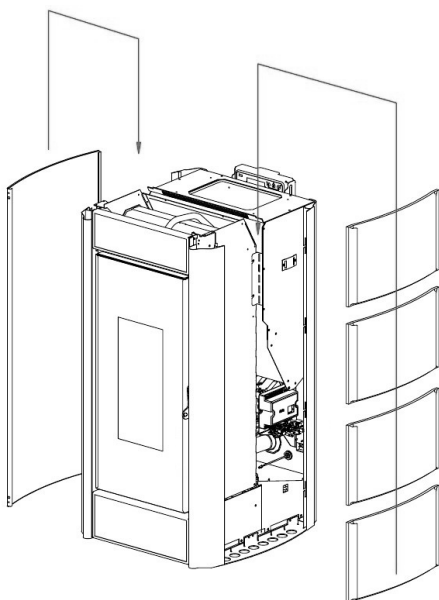

Fig. 36 - Insert side panels
- Insert the side panels into the corresponding guides letting them slide slowly down to the base (see **Fig. 36**).